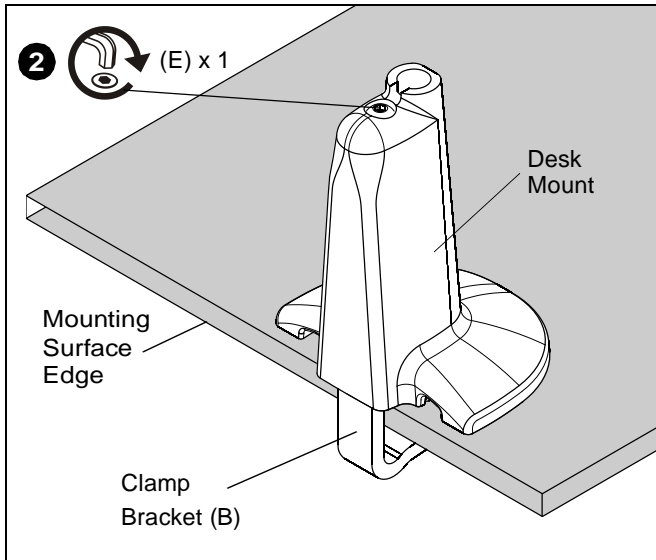

Figure 5
1. Place desk mount over edge of mounting surface so that clamp bracket (B) fully contacts mounting surface edge.
2. Tighten clamp bracket to mounting surface using 3/16" hex key (J) on 5-16/18 x 4" button head cap screw (E). (See Figure 5)